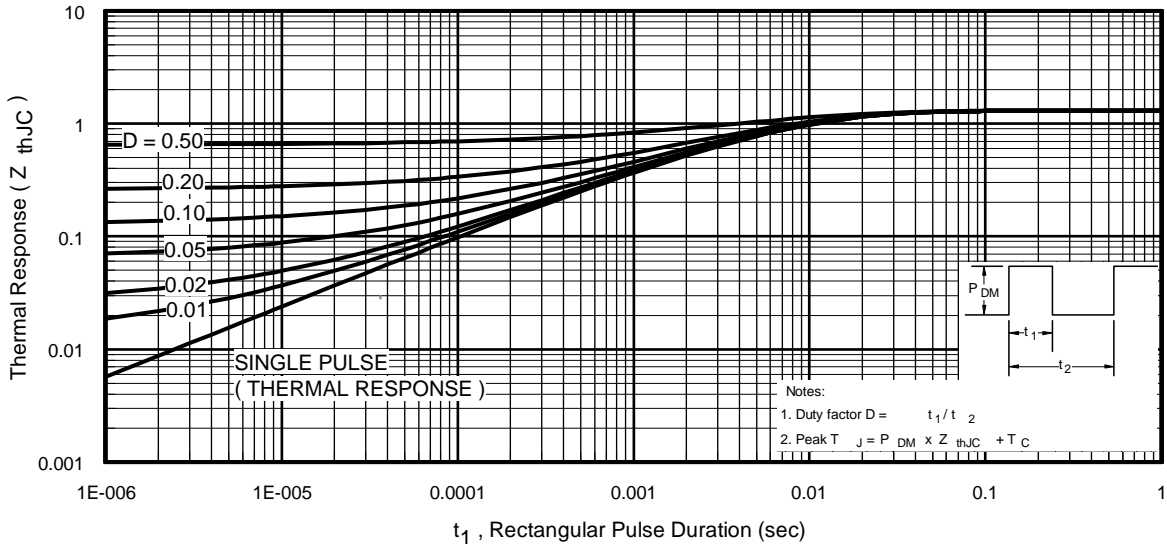

Fig 11. Maximum Effective Transient Thermal Impedance, Junction-to-Case
$Z_{thJC}(D, t_{av})$ = Transient thermal resistance, see figure 11)
- ① Repetitive rating; pulse width limited by max. junction temperature. (See fig. 11).
- ② Limited by T_{Jmax} , starting $T_J = 25^\circ C$, $L = 0.71mH$, $R_G = 25\Omega$, $I_{AS} = 23A$, $V_{GS} = 10V$. Part not recommended for use above this value.
- ③ $I_{SD} \leq 23A$, $di/dt \leq 400A/\mu s$, $V_{DD} \leq V_{(BR)DSS}$, $T_J \leq 175^\circ C$.
- ④ Pulse width $\leq 1.0ms$; duty cycle $\leq 2\%$.
- ⑤ C_{oss} eff. is a fixed capacitance that gives the same charging time as C_{oss} while V_{DS} is rising from 0 to 80% V_{DSS} .